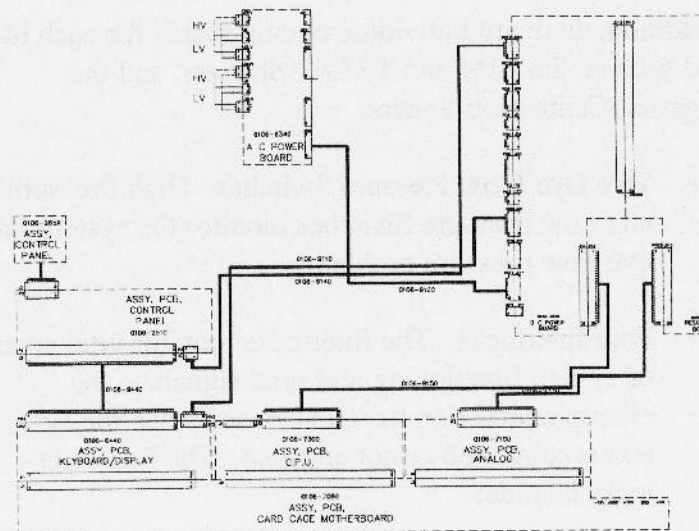

Figure 5.2: Dye Module Wiring Diagram
An interconnect diagram of the Dye Module electronics system is illustrated in Figure 5.1. A wiring diagram is shown in Figure 5.2.
**Function.** The Low Voltage Power Supply generates +5 (4.8 to 5.2 VDC), +15 (14.4 to 15.6 VDC), -15 (-14.4 to -15.6 VDC) and -5 (not used) voltages and supplies them to the DC Power PCB. Voltage measurements can be taken either from the P2 Connector on the LVPS or from the top of the PD9 Connector on the DC Power PCB. (Refer to Figure 5.2.) The wiring for each is as follows: